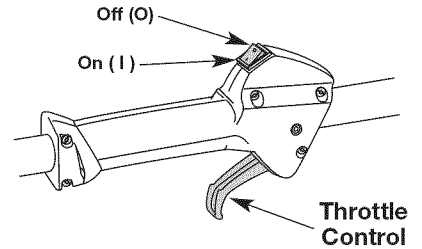

Fig. 13
**NOTE:** There is no need to turn the unit on. The On/Off Control is in the ON (I) position at all times (Fig. 13).
2. Press and hold the On/Off Control in the OFF (O) position until the engine comes to a complete stop (Fig. 13).
- NOTE:** There is no need to turn the unit on. The On/Off Control is in the ON (I) position at all times (Fig. 13).
- Press and hold the On/Off Control in the OFF (O) position until the engine comes to a complete stop (Fig. 13).